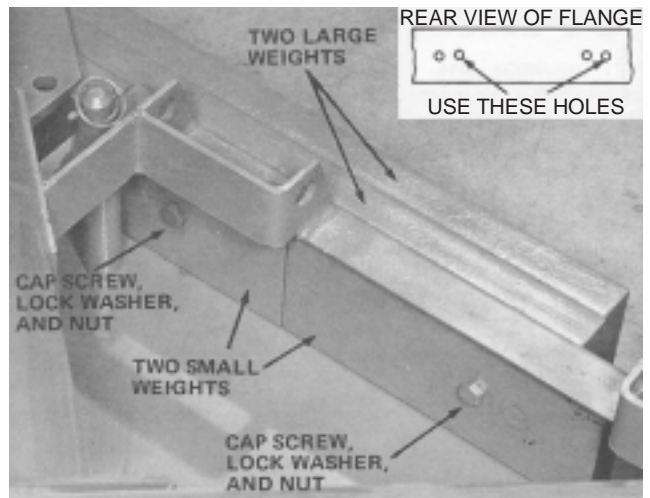

Figure 3
5. Install two small weights on inside and two large weights on outside of mounting flange with two capscrews, lockwashers and nuts (Fig. 3).
Note: Mounting flange for weights has two sets of holes. To assure correct installation, use extreme right pair of holes (Fig. 3, inset). Also, long end of weights must be toward right side of plow.